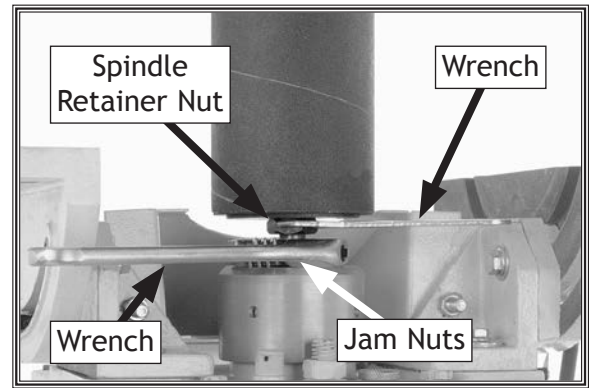

Figure 23. Spindle removal.
2. Use one of the supplied wrenches to hold the jam nuts stationary while you loosen the spindle retainer nut, and the spindle will back out as it un-threads (see Figure 23).